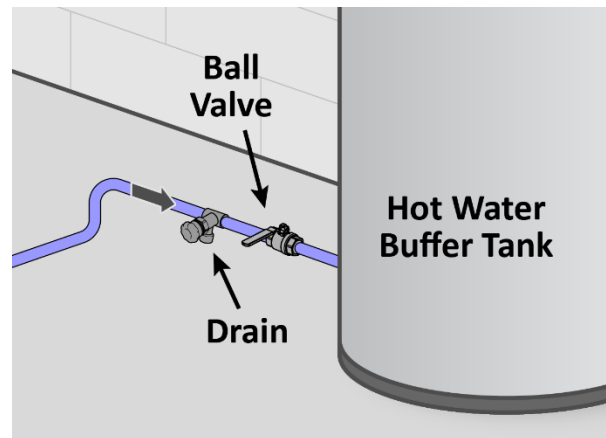

Figure 7: Purge air from the system
10. Be sure to properly remove air from the system before operating. Drawing water in the opposite direction with a drain and ball valve may help. (See Figure 7.)